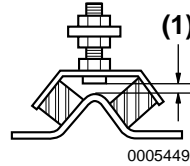

Figure 17
Replace if clearance is less than 1 mm **(Figure 17, (1))**. See your authorized Yanmar Marine dealer or distributor for procedure.